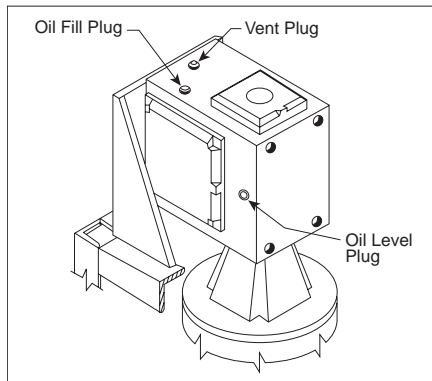

Figure 11
1. Remove the oil level plug from the gear reducer. Refer to Figure 11 below. The oil level should be even with the bottom of the hole.
2. To add oil, remove the plug from the top of the gear reducer and fill to the proper level (refer to Figure 11 above). Refer to the card attached to the gear reducer for the proper lubricant.